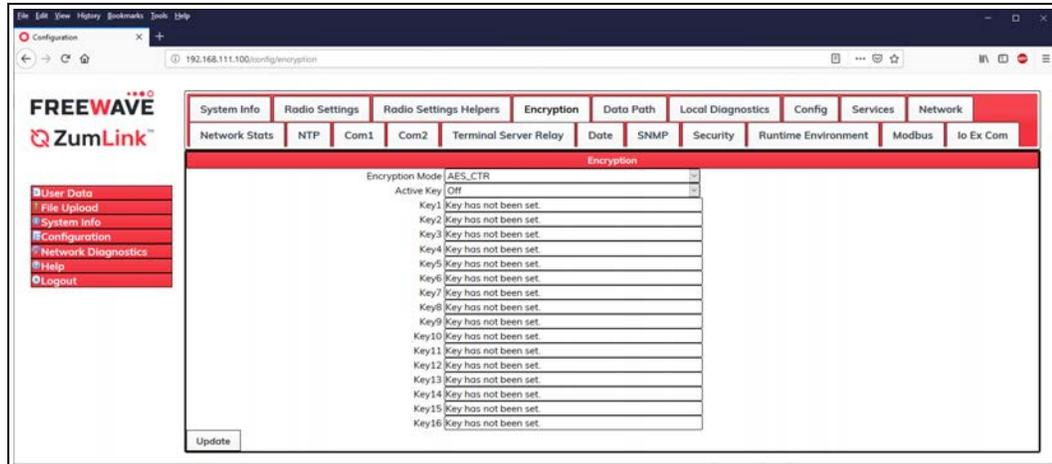

Figure 261: Encryption window
6. Click the **Encryption** tab to access the **Encryption** parameters. Figure 261